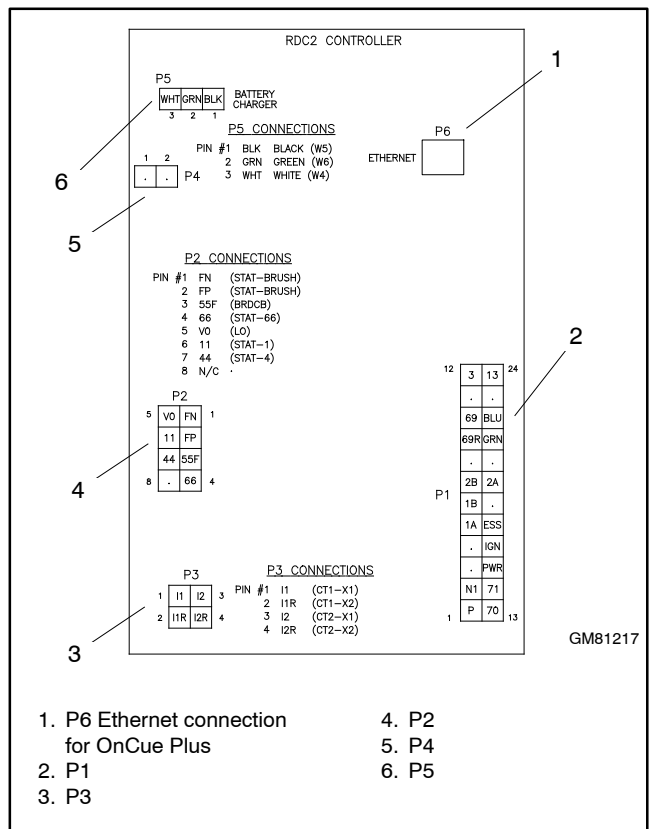

Figure 3-8 Controller Connections
6. Note the connections on the back of the controller, and then disconnect all harnesses and leads from the controller. See Figure 3-8 or the wiring diagram.
9. Install the controller onto the junction box using the two (2) screws removed in step 5.